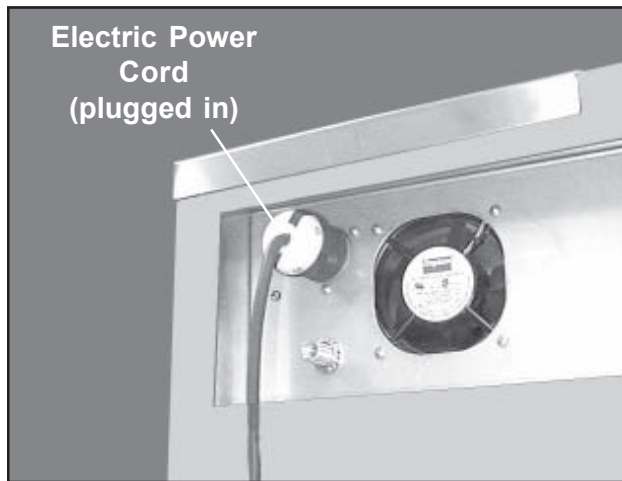

Figure 93. Electrical Connection at Rear of Unit
3. At the power cord connection on the unit, twist the large connector plug counter-clockwise and pull it off (Figure 93).